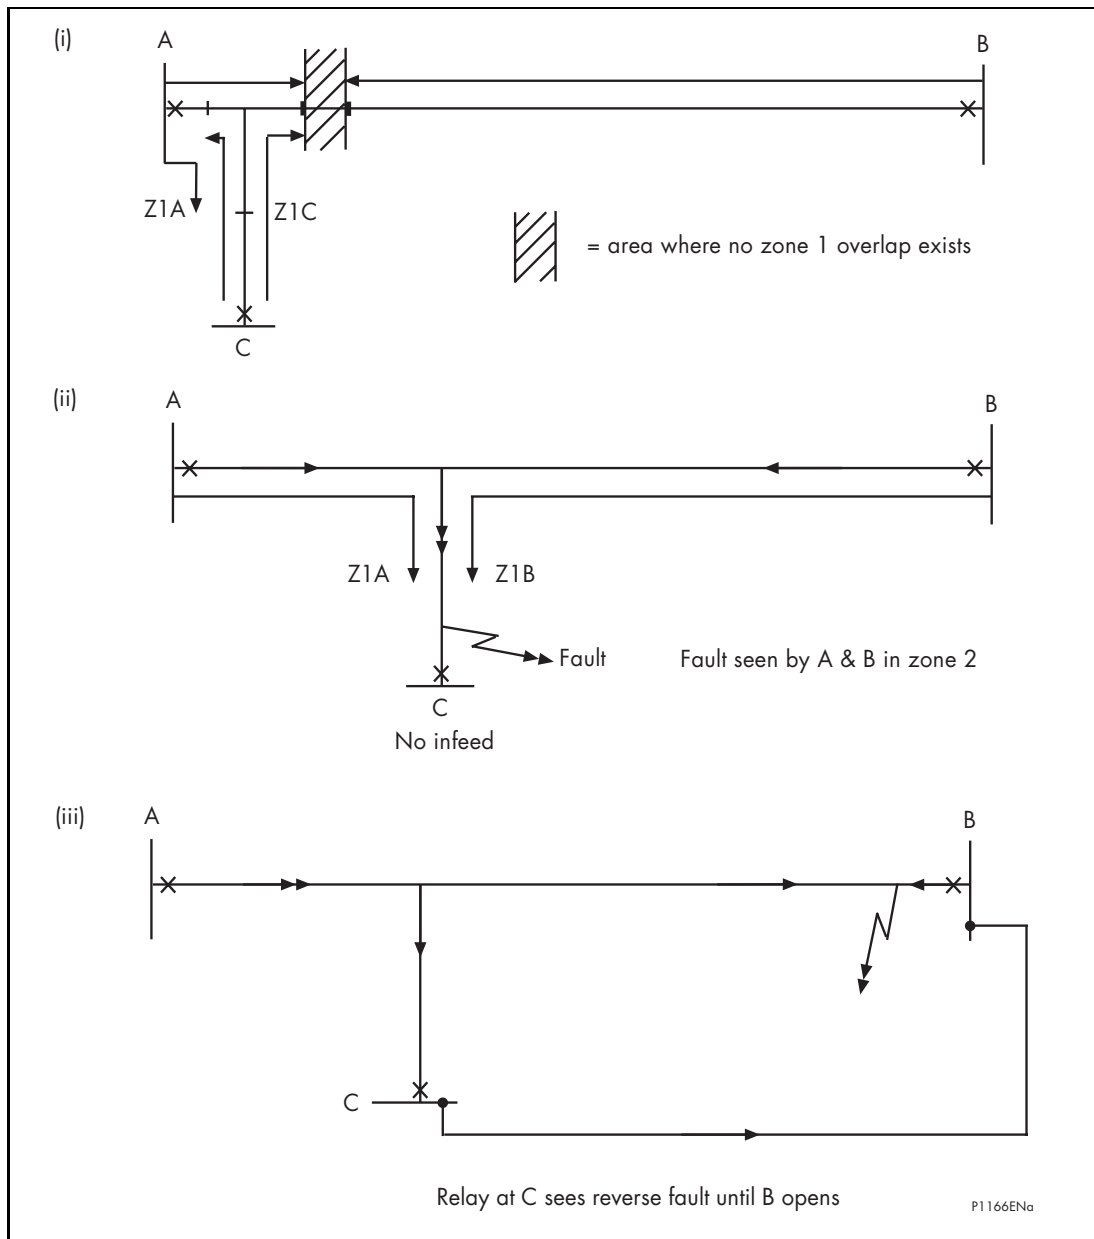

Figure 13: Teed feeder applications
- Figure 13 (i) shows the case where a short tee is connected close to another terminal. In this case, zone 1 elements set to 80% of the shortest relative feeder length do not overlap. This leaves a section not covered by any zone 1 element. Any fault in this section would result in zone 2 time delayed tripping.
- Figure 13 (ii) shows an example where terminal 'C' has no infeed. Faults close to this terminal will not operate the relay at 'C' and hence the fault will be cleared by the zone 2 time-delayed elements of the relays at 'A' and 'B'.
The major disadvantage of blocking schemes is highlighted in Figure 13 (iii) where fault current is outfed from a terminal for an internal fault condition. Relay 'C' sees a reverse fault condition. This results in a blocking signal being sent to the two remote line ends, preventing tripping until the normal zone 2 time delay has expired.